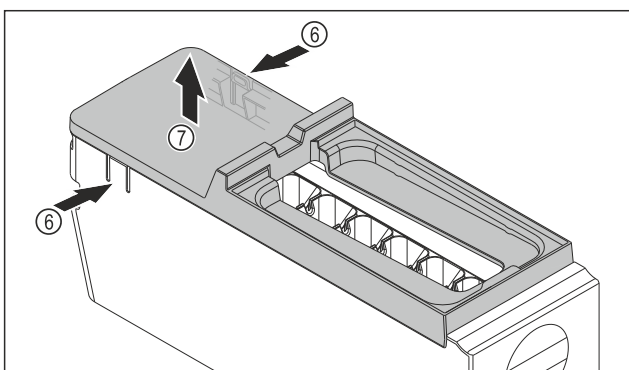

Fig. 146
- ▶ Removing the EasyTwist-Ice body cover: Push the tabs Fig. 146 (6) on both sides of the EasyTwist-Ice body with one hand.
- ▶ Use the other hand to remove the cover Fig. 146 (7) upwards.